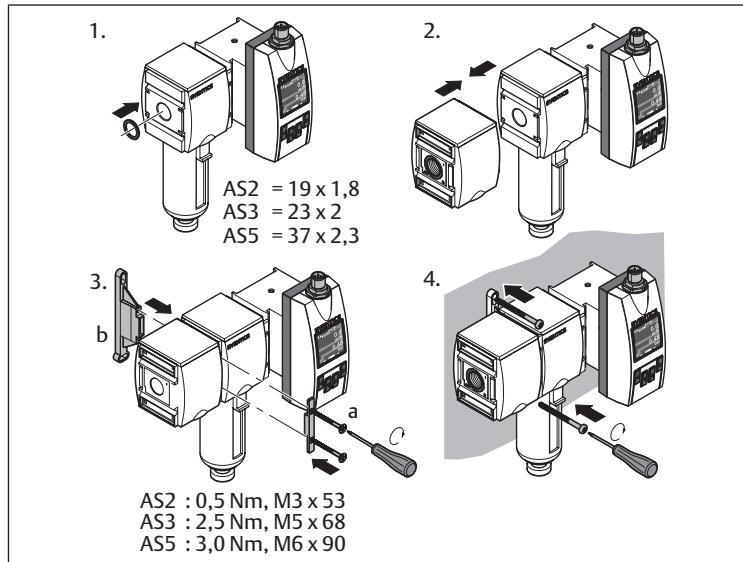

Fig. 4: Assembly with mounting bracket | W03
- Assembly with mounting bracket: see → Fig. 4.